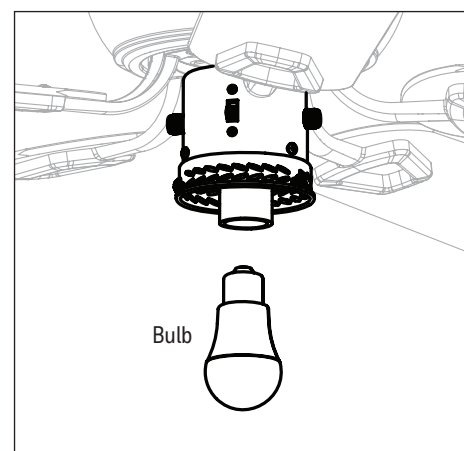

Figure 4.6
6. Install the E26-base LED bulb into the socket of the light kit. **Important:** Make sure you allow the bulb and light kit to cool before you replace the bulb (Figure 4.6).